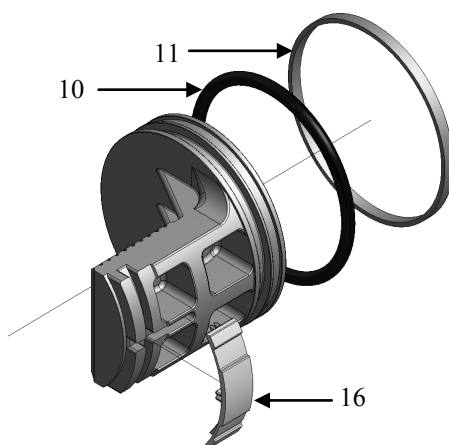

Fig. 8.2
- b. End Caps (2)
- c. Upper Pinion O-ring (1)
- d. Lower Pinion O-ring (1)
- e. Air Passage Plugs (2)
- f. Stop O-rings (2)
- g. Pinion Bearing (1)
- h. Thrust bearing (1)
- i. Flange Washer (1)
- a. Piston O-rings: will be the thickest O-rings (2 pieces), (#10 fig. 8.2)
- a. Piston Skates (#16 fig. 8.2)